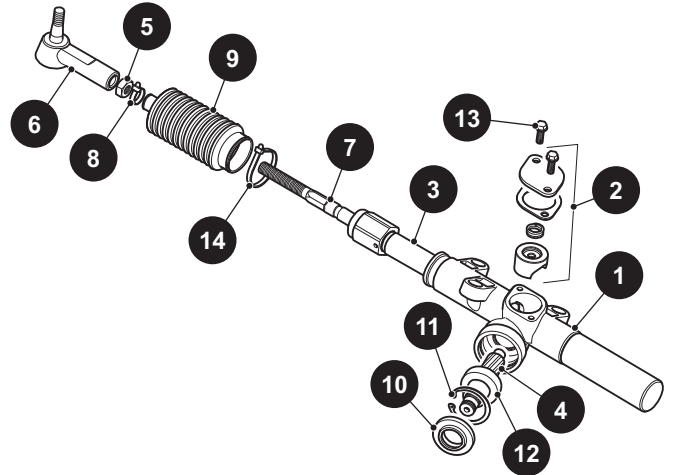
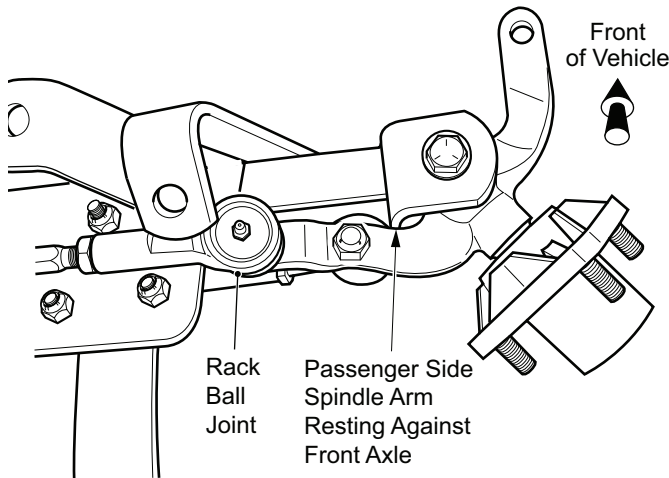

Figure 18 Rack and Pinion Unit Disassembly
Figure 19 Spindle Contact with Front Axle
Disassemble rack and pinion unit (1) by first removing screw (13) and tensioner (2) to relieve pressure on rack (3) and pinion (4) (Ref. Figure 18). Loosen jam nut (5) and remove rack ball joint (6) from rack extension (7). Cut wire ties (8, 14) securing bellows (9) and slide bellows off rack extension. Pull rack (3) from unit (1). Remove pinion seal (10). See the *Pinion Seal Replacement* on page 38 Remove internal retaining ring (11) from rack and pinion unit and pull out pinion (4) and ball bearing (12) as an assembly.
Check for proper rack extension-to-rack and pinion unit clearance by first turning steering wheel fully to the right. The rear spindle arm on the passenger side **must rest against** the front axle (Ref. Figure 19). If it does not, all adjustment is made at the rack ball joint (6) (Ref. Figure 18). Loosen jam nut (5) at rack ball joint and use wrench to thread shaft of rack extension (7) further into rack ball joint. This will provide more travel for the steering wheel to be turned to the right.